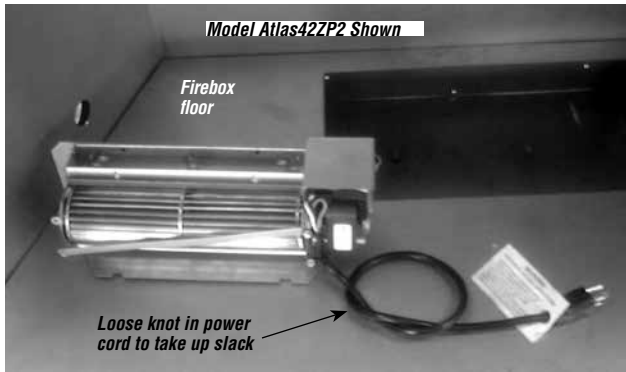

Figure 20
Step 3. Loosely tie a knot in the power cord to take up slack (see *Figure 20*).